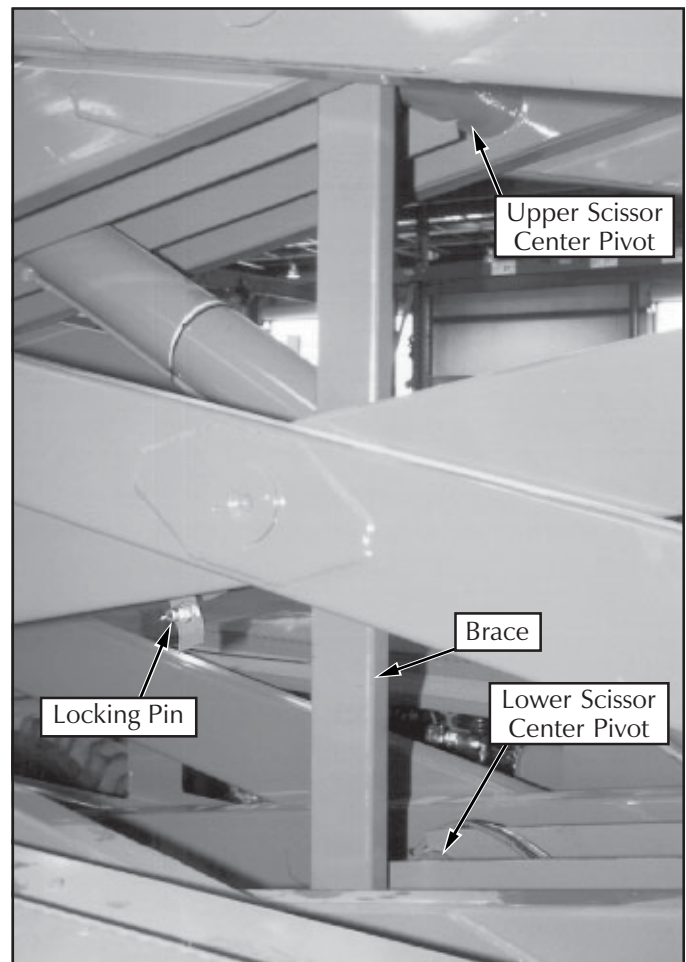

Figure 4-1: Blocking Elevating Assembly
4.2 Blocking Elevating Assembly (Figure 4-1)